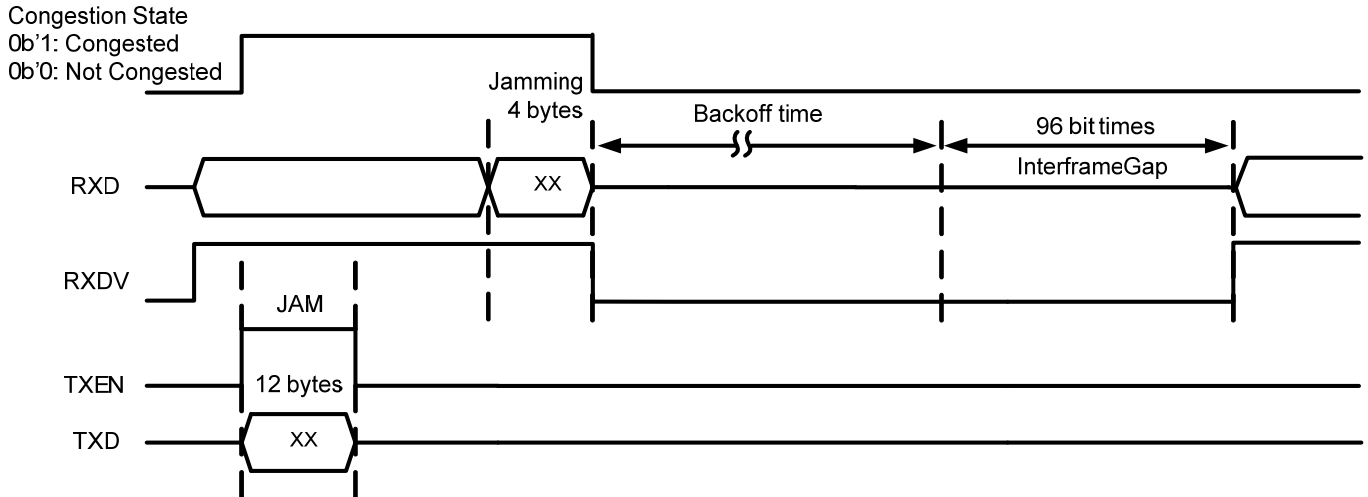

Figure 11. Signal Timing for Collision-Based Backpressure
- After the RTL8330M/RTL8332M/RTL8332L receives this jamming signal, it drives RXDV to low. The link partner waits for a random backoff time then re-sends the packet. The timing is shown in Figure 11